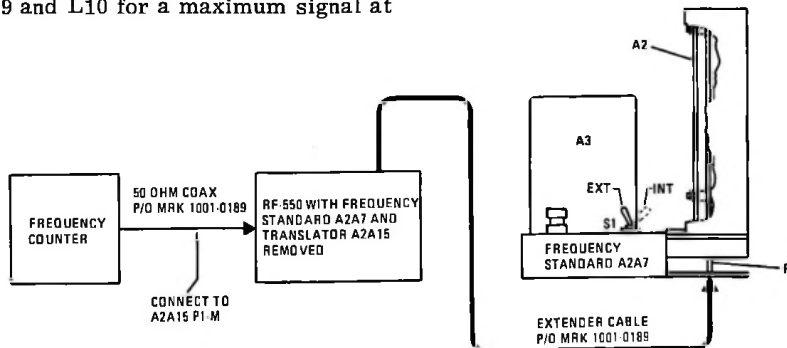

Figure 3. 160 MHz Generator PWB Assembly Test Setup Diagram
- b. Make test connections shown in figure 3.